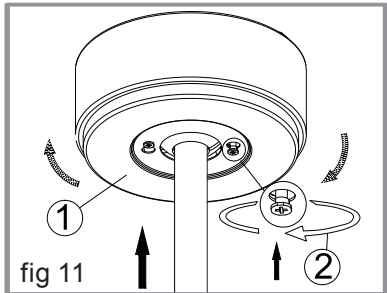

fig 11
- 1) After done up the wiring, attach the canopy to the hanger bracket by pushing up and twist to locate screws in the two key holes.(fig 11)